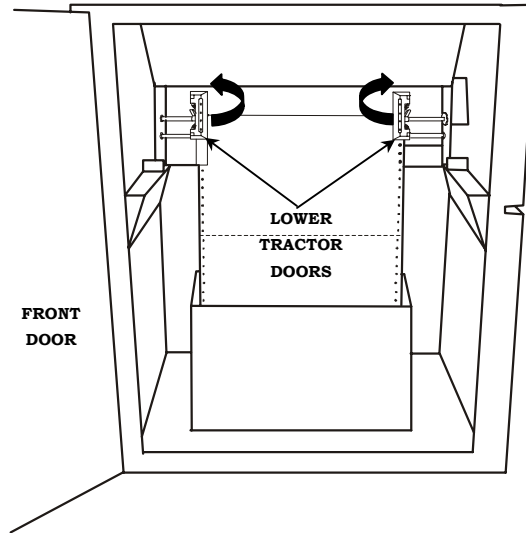

FIGURE 2-16 LOWER TRACTOR DOORS
6. Open the lower left and right tractor doors. See Figure 2-16
12. The fingers on the paper tensioning bar flattens the paper and squeezes air from between multipart forms. Set the paper tension adjust lever for the paper thickness to be used (normally set to 1 for single-part thickness and a higher number as needed for multipart forms.) See Figure 2-16.